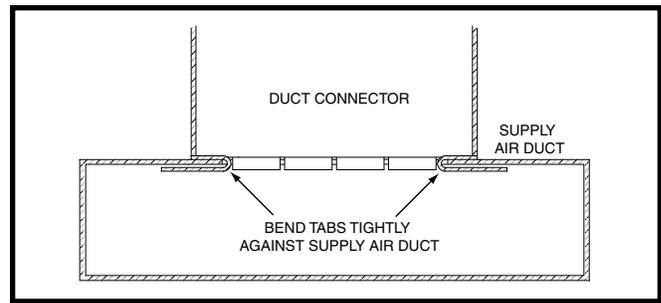

Figure 6. Duct Connector Tabs
7. Bend the connector tabs on the bottom of the duct connector upwards and as tight as possible against the supply air duct. See Figure 6 (page 7).